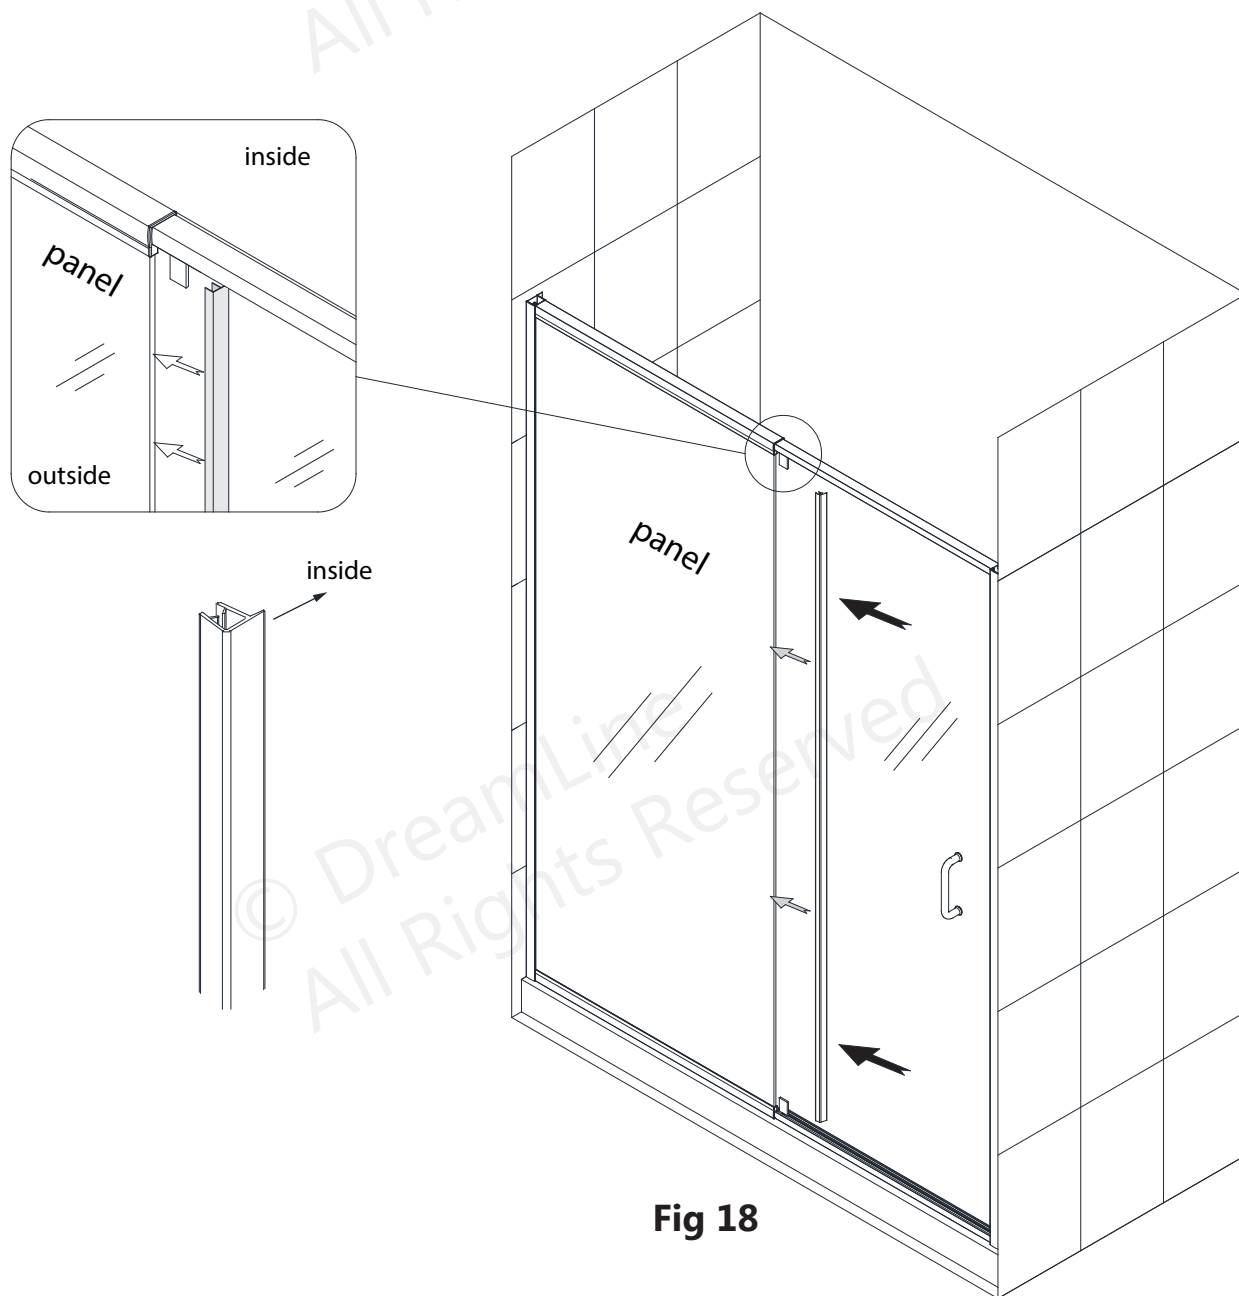

**Fig 18**
**18.** Attach the **Vinyl Seal with Flexible Fin (#07)** to the vertical edge of the **Stationary Panel Glass (#02)** with the flange facing into the shower. **(Fig 18)**